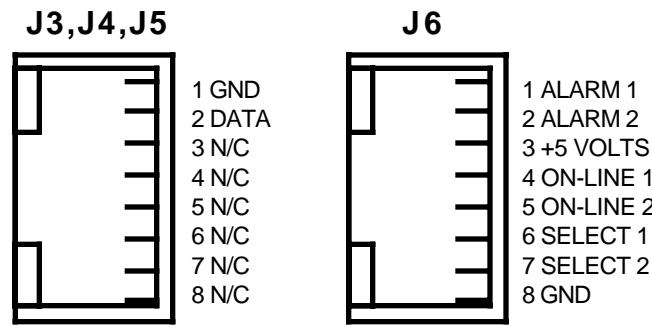
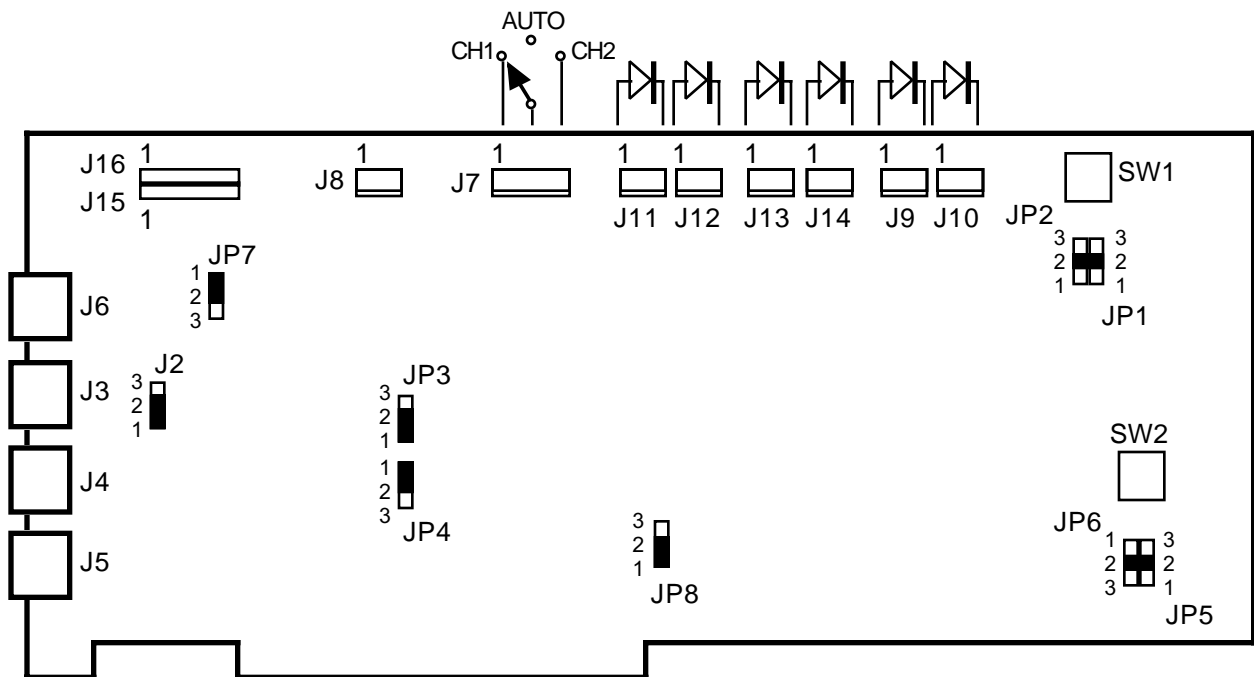

FIGURE 2.0 INPUT/OUTPUT RJ45 PINOUTS
FIGURE 2.1 582-10 CONTROLS/INDICATORS PARTS LOCATIONS
TABLE 2.0 DATA INPUT/OUTPUT CONNECTORS J3, J4, J5 (FIGURE 2.0)
TABLE 2.1 CONTROL/INDICATOR I/O CONNECTORS J6 (FIGURE 2.0), J15 (FIGURES 2.1 & 2.2)
TABLE 2.2 ON-CARD CONNECTORS - 582-10 ONLY (FIGURE 2.1)
| J9 | CH2 ONLINE LED | Pin 2 - Open collector output to Ground when CH2 is online. Pin 1 - 300Ω pull-up to +5 Volts. Allows for LED across Pins 1 & 2 (see Figure 2.1) |
| J10 | CH1 ONLINE LED | Pin 2 - Open collector output to Ground when CH1 is online. Pin 1 - 300Ω pull-up to +5 Volts. Allows for LED across Pins 1 & 2 (see Figure 2.1) |
| J11 | MANUAL LED | Pin 2 - Open collector output to Ground when CH1 or CH2 is manually selected. Pin 1 - 300Ω pull-up to +5 Volts. Allows for LED across Pins 1 & 2 (see Figure 2.1) |
| J12 | REMOTE LED | Pin 2 - Open collector output to Ground when CH1 or CH2 is remotely selected. Pin 1 - 300Ω pull-up to +5 Volts. Allows for LED across Pins 1 & 2 (see Figure 2.1) |
| J13 | CH1 ALARM LED | Pin 2 - Open collector output to Ground when CH1 is in the ALARM condition. Pin 1 - 300Ω pull-up to +5 Volts. Allows for LED across Pins 1 & 2 (see Figure 2.1) |
| J14 | CH2 ALARM LED | Pin 2 - Open collector output to Ground when CH2 is in the ALARM condition. Pin 1 - 300Ω pull-up to +5 Volts. Allows for LED across Pins 1 & 2 (see Figure 2.1) |
TABLE 2.3 ON-CARD SETTINGS - 582-10 & 582-11 (FIGURES 2.1 & 2.2)
- d. Connect to signals on the MONITORS/CONTROLS connector, J6 and/or J15, as desired (see Figure 2.0, Table 2.1).